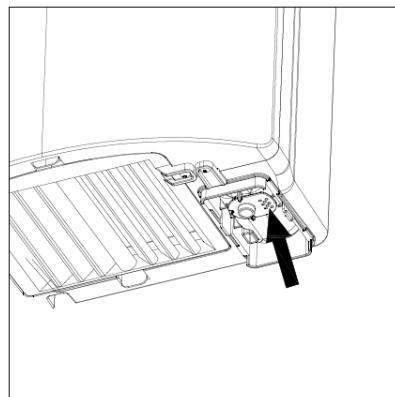

Figure 9
- II. Press the push button as indicated in Fig. 9 until remove all the water contained into the